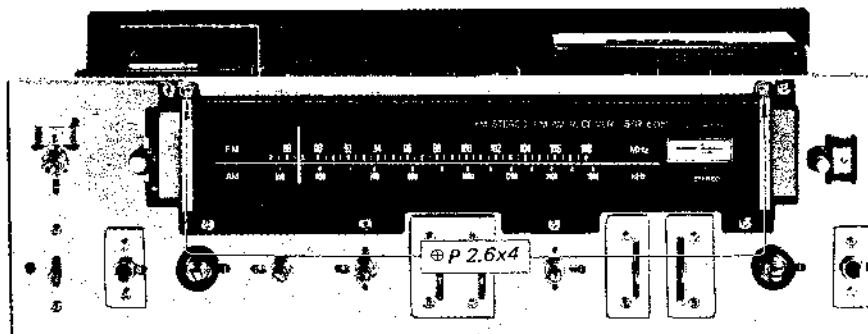

Fig. 2-12. Dial scale removal
3. Remove the two screws ($\ominus P 2.6 \times 4$) securing the dial-scale holder to the front subchassis as shown in Fig. 2-12.